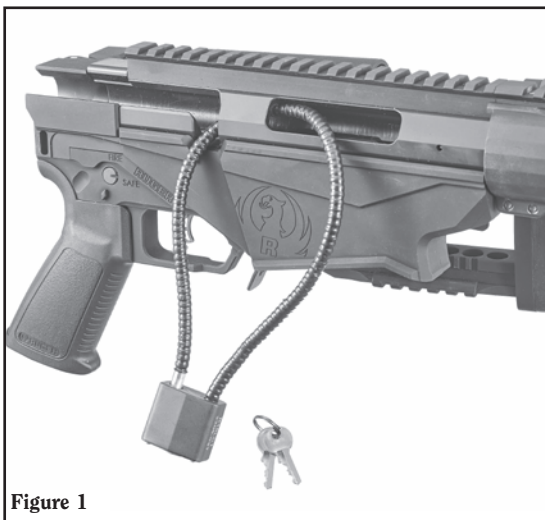

Figure 1
6. Apply the lock to your **RUGER PRECISION RIFLE®** as shown below in Figure 1.